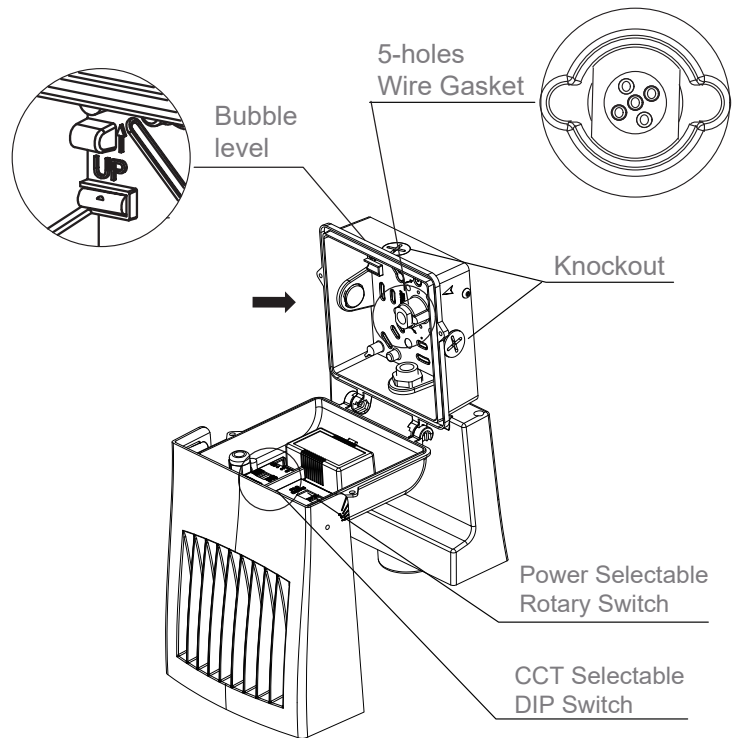

Figure 4
5. Pull out the power supply wires (L black, N White), grounding wire (G Green), and dimming wires (purple and gray) (if needed), by breaking through the 5 holes wire gasket. (Figure 4)
6. Select the desired CCT by using the sliding switch according to project needs. (Figure 4)
7. Hang the luminaire on the mounting hooks and check the internal bubble level to verify that the fixture is plumb and level. (Figure 4)